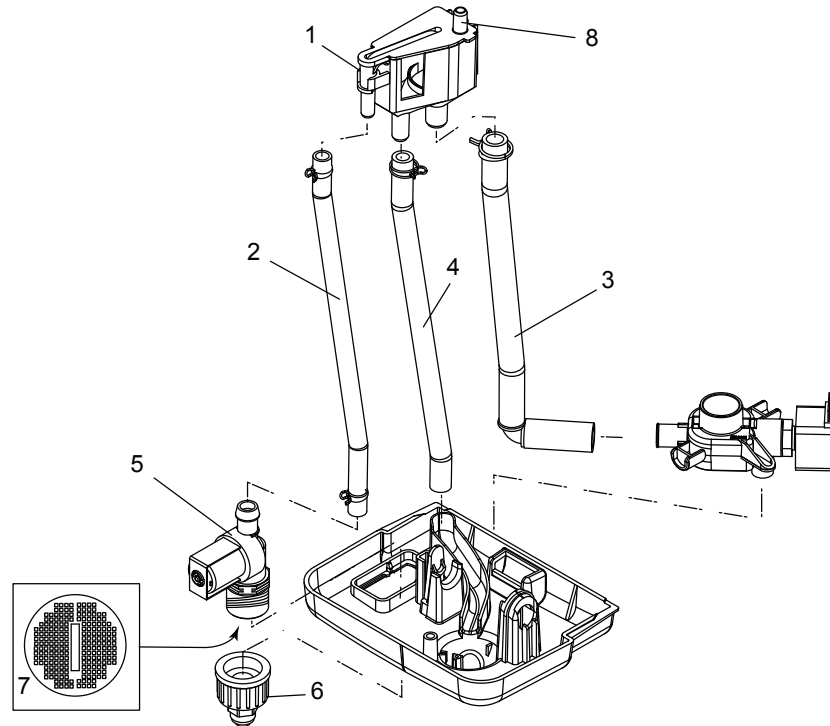

Figure 12 - Internal Plumbing Components
1. (Recommended) Remove hoses and clamps from the fill cup. Refer to Figure 12 on page 22.